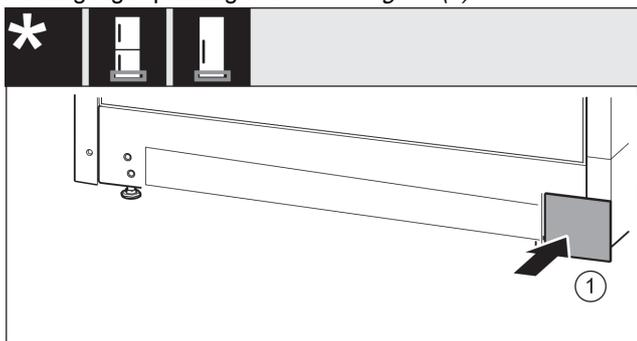

Fig. 15
- Put the cover back on the other side. Fig. 15 (1)